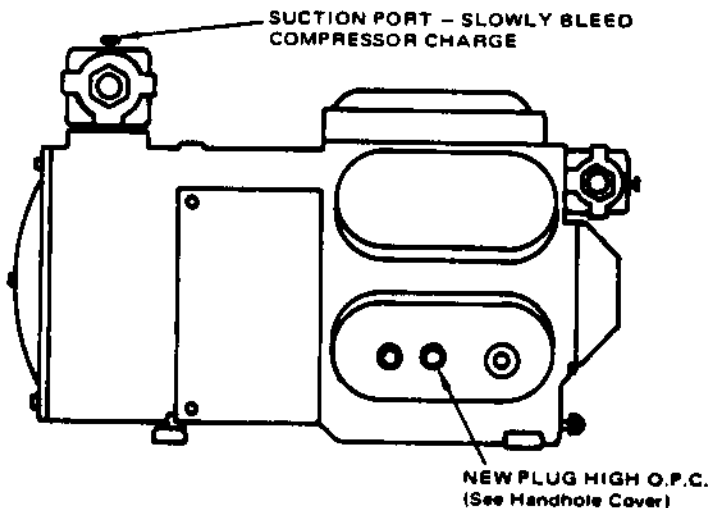

FIGURE 1
4. Slowly bleed the charge from the compressor by loosening the suction gauge service port cap located at the rear of the suction service valve. (See Figure 1).
6. Remove the plug located on the compressor hand hole cover. (See Figures 1 & 2)